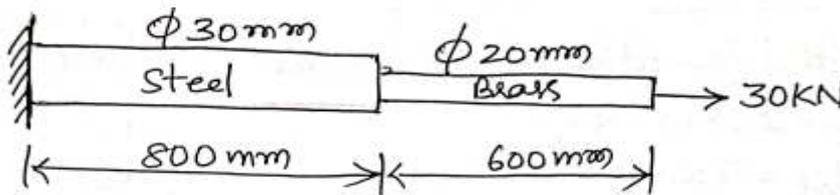

Fig. 2 (b)
- b. The composite bar shown in Fig. 2(b) is subjected to tensile load of 30kN, extension observed is 0.74 mm, Find the Young’s Modulus of Brass if Young’s Modulus of steel is 2×10^5 MPa. 10 (3 :1: 1.7.1)